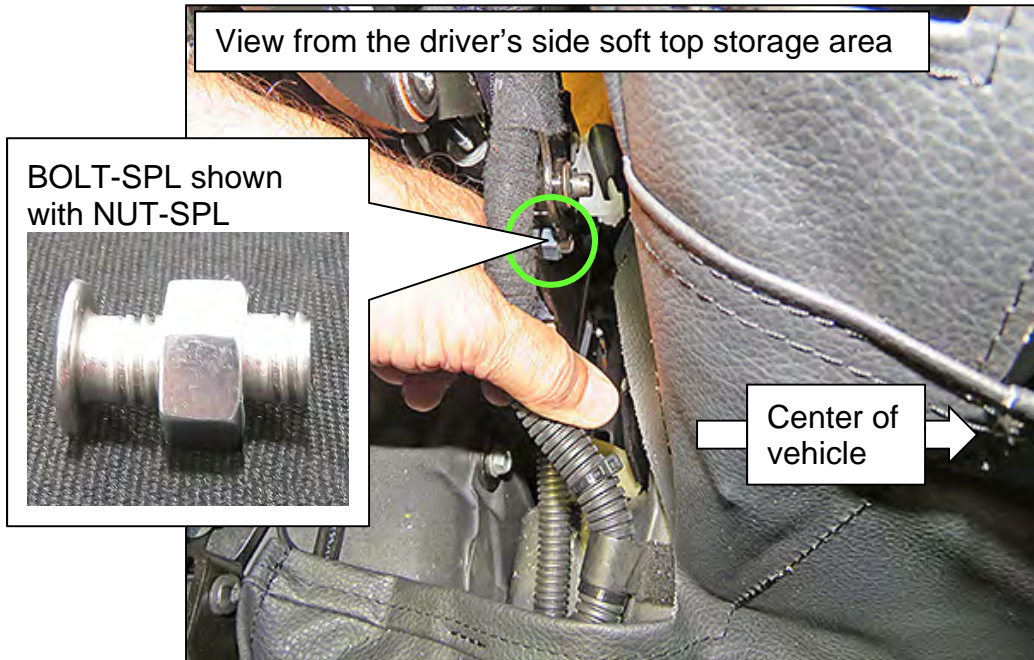
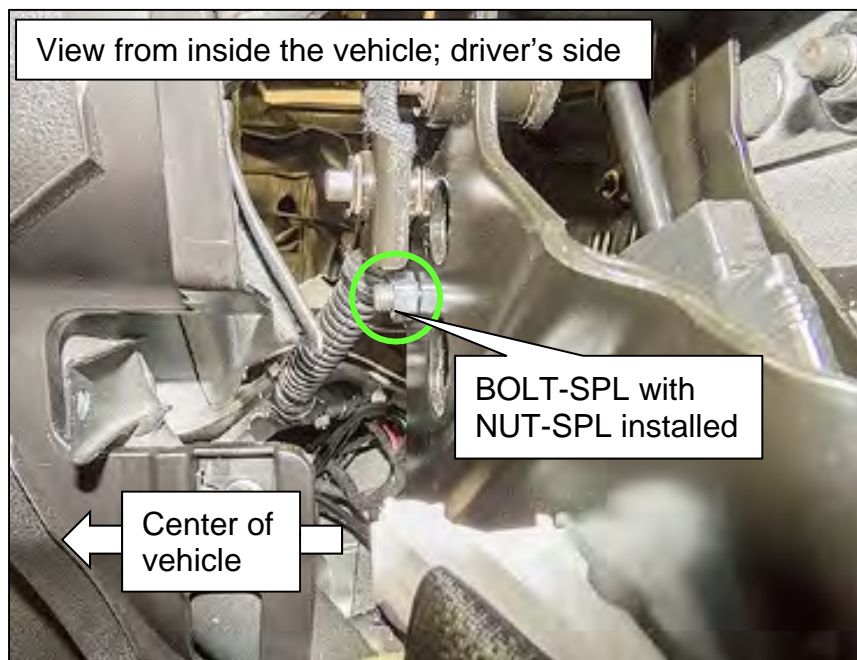

Figure 128
Figure 129
- Insert bolt (BOLT-SPL) so that the threads face the middle of the vehicle (Figure 128 and Figure 129).